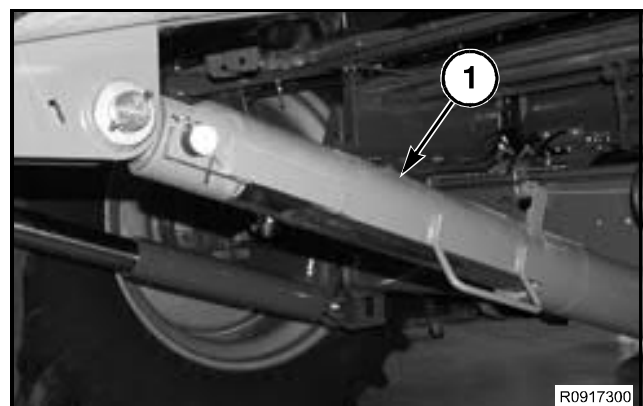

FIG. 34
FIG. 34: Header lift cylinder stop (1) is provided on the header lift cylinder. Always use the header lift cylinder stop when working underneath the feeder house or header. Refer to the Operation section for more information.